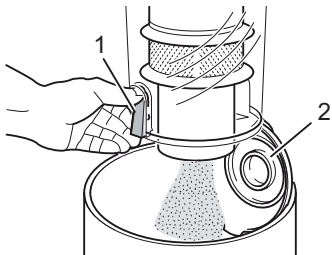

Fig. 22
5. Push the release button (Fig. 22/1).
The bottom plate (Fig. 22/2) opens and the dust drops into the dustbin.